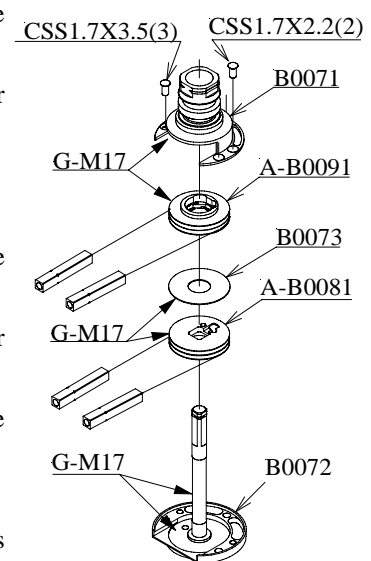

Fig.7-1-1
1. Pulley and bearing assembly: (Fig.7-1-1)